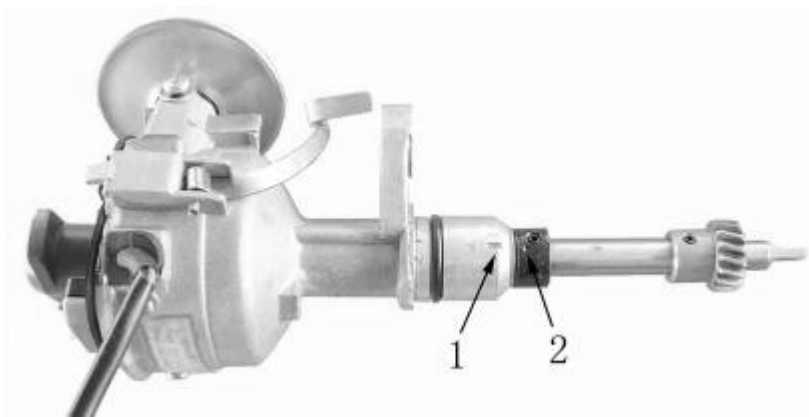

Figure 63
- 4) Insert the screwdriver into the hole, turn the drive of oil pump shaft until parallel to the crankshaft (**See** Figure 62, Figure 63)
- 5) Align the mark 2 on the shaft of distributor to the mark 1 on the aluminum housing (**See** Figure 63)